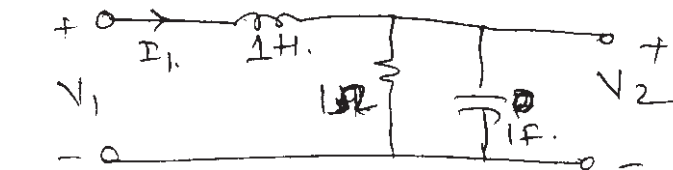

Figure .2
- c) Find $\frac{V_2(s)}{V_1(s)}$ for the network shown in Fig.2 [6]